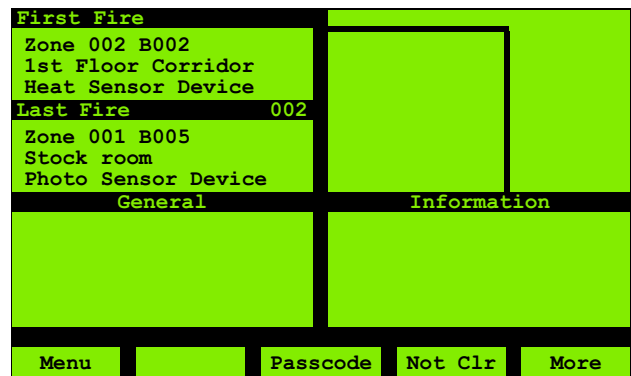

Fig. 6: Alarm Window
- The LCD displays a message in the format shown in Figure 6.